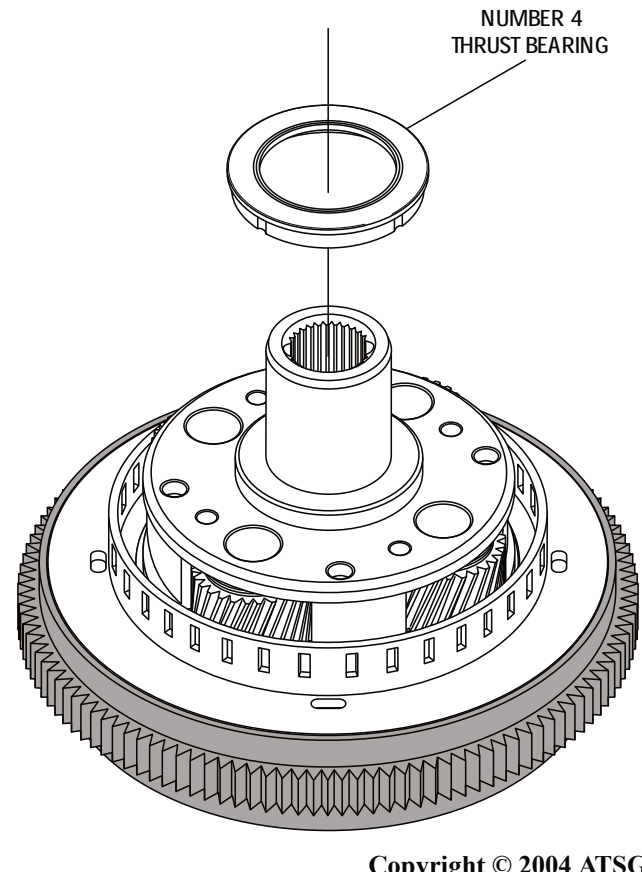

Figure 107
8. Turn the entire assembly over and install the number 4 thrust bearing, in the direction shown in Figure 107, and retain with a small amount of Trans-Jel®.